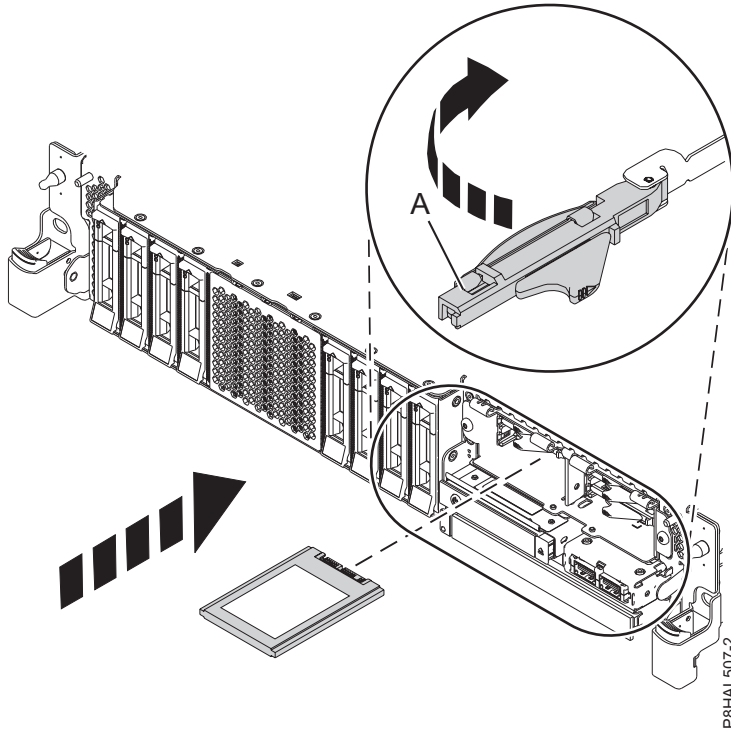

Figure 68. Replacing an SSD in an expanded function system
15. With the SSD drive bay handle (A) in the unlocked position, pull the lever outward to gain access to the guide rails in the SSD slot. Support the bottom of the SSD as you align it with the guide rails in the SSD slot. See Figure 68 on page 70.
20. Lock the drive by rotating the bay handle (A) in the direction that is shown in Figure 68 on page 70.